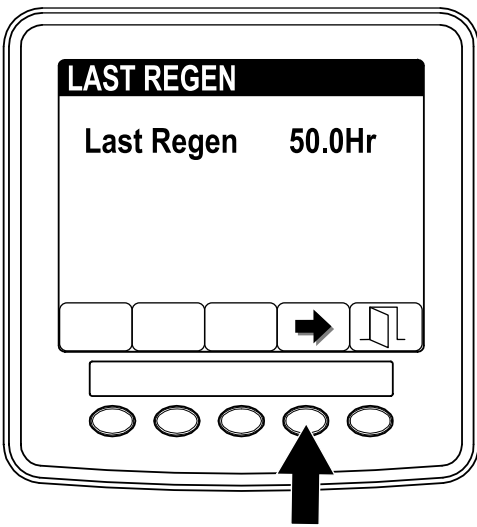

Figure 35
3. Use the LAST REGEN field (Figure 35) to determine how many hours you have run the engine since the last reset, parked, or recovery regeneration.